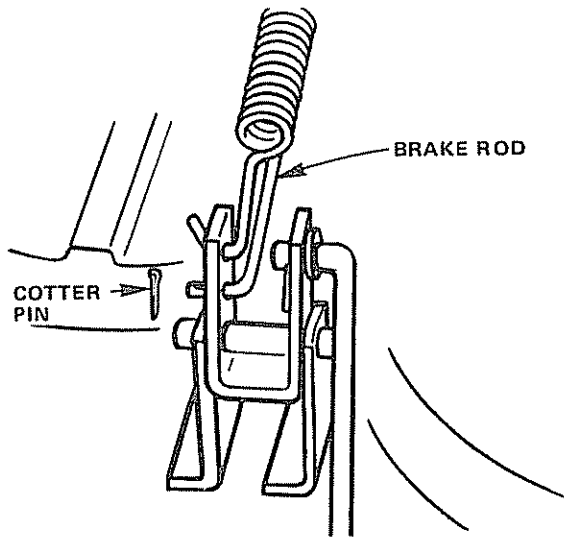

FIGURE 30
6. Remove Cotter Pin from Brake Rod (Fig. 30).